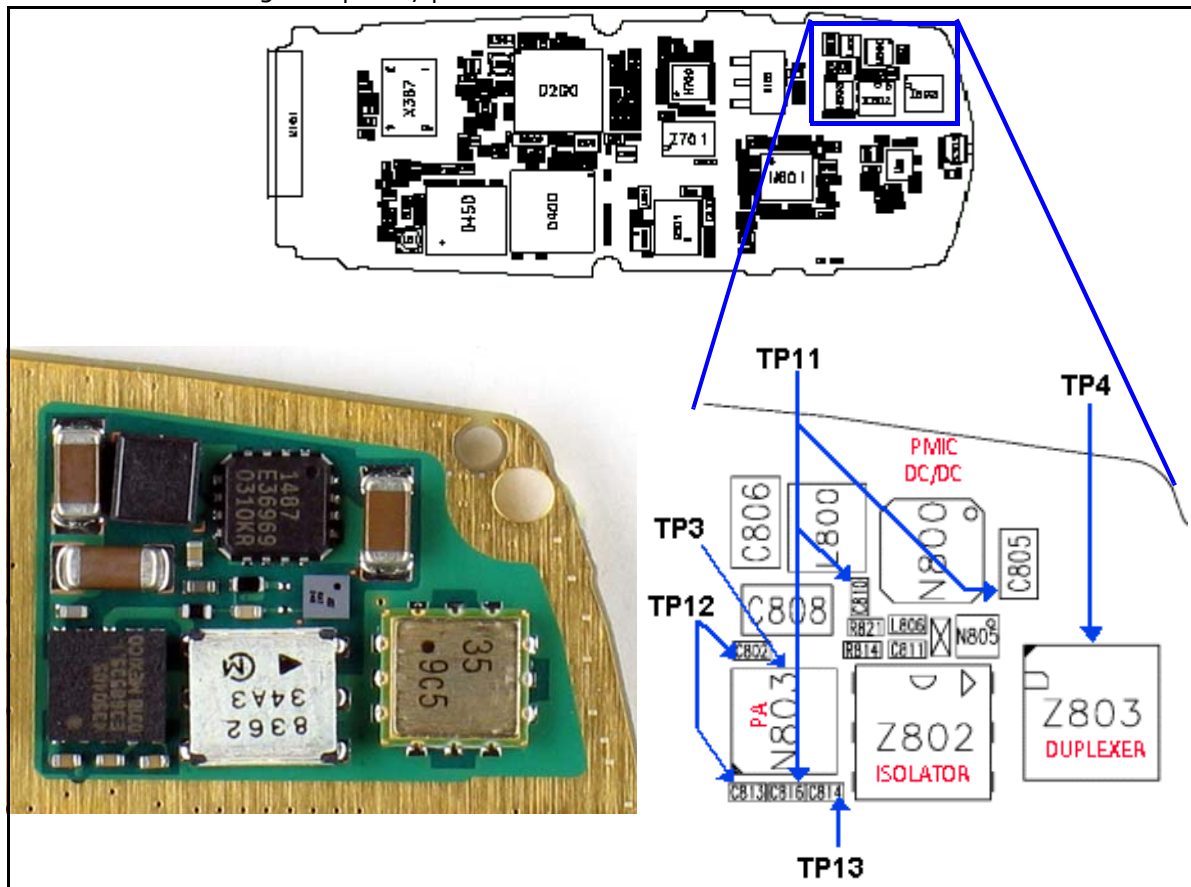

Figure 9: (Top) PWB. (Bottom left) A zoomed view of the testing points on the PA section. (Bottom right) A zoomed view of the PA section with part numbers.
* The R, L, T, and B values at the end of the part names indicate the Right, Left, Top, and Bottom side of the part respectively in Figure 8 and Figure 9.
Figure 9 shows each testing point for the PA section from Table 1, "Cell Transmitter Test Points," on page 9. *Always* attach a 20 dB pad (11881-60001) when probing with an HP85024A high frequency probe.